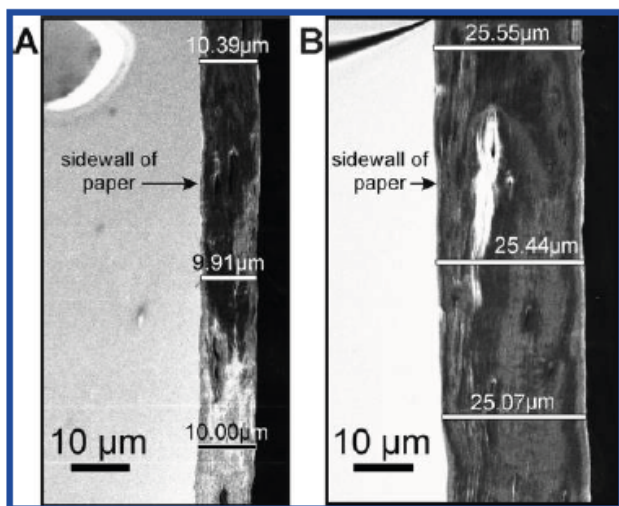

Figure 3. SEM images of the fracture surface of a ~10 μm-thick graphene oxide paper sample before (A) and after (B) solution-phase treatment with dodecylamine.
Figure 3. SEM images of the fracture surface of a $\sim 10 \mu\text{m}$ -thick graphene oxide paper sample before (A) and after (B) solution-phase treatment with dodecylamine.